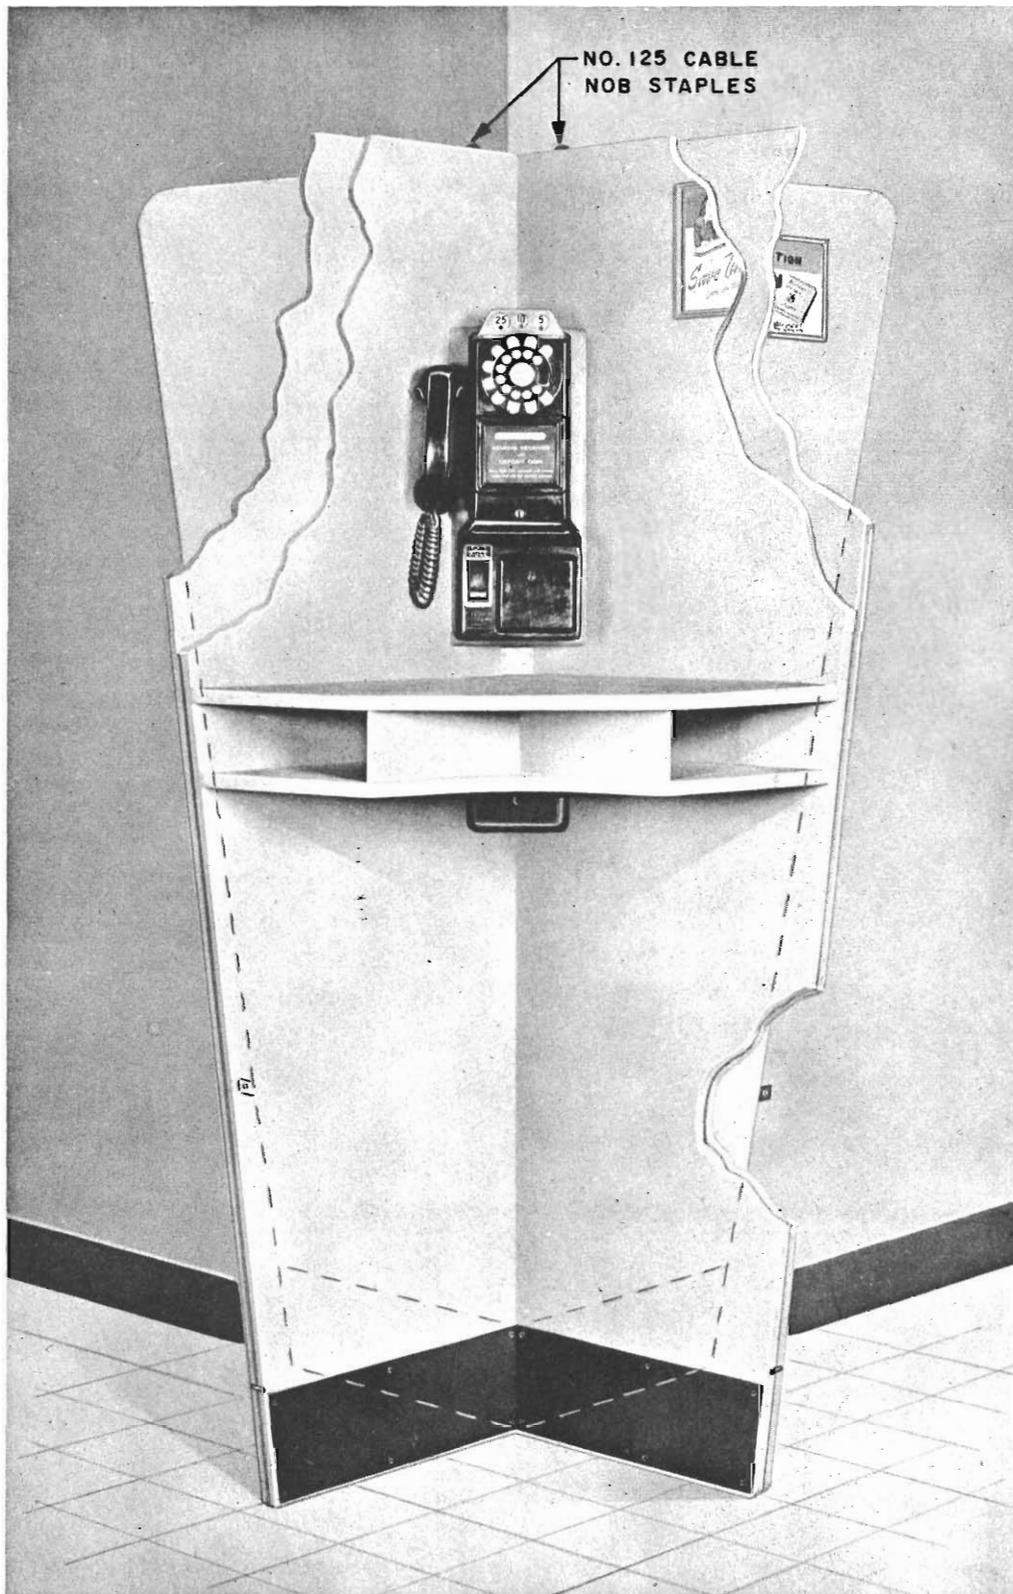

Fig. 5 — Three 20-Type Shelves on Outside Corner
- Three on an outside corner, Fig. 5.